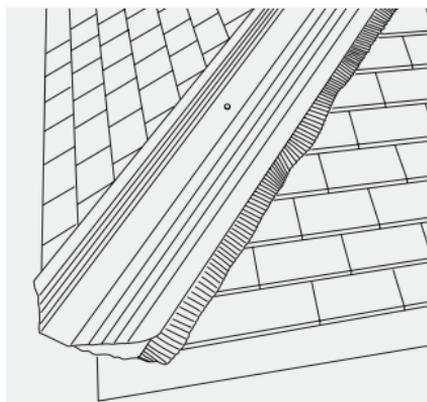

Fig. 60 – HipFast support tray cut at eaves
- 8 In all applications it is recommended that Hipfast support trays (34002) be used. These are designed to ensure the correct support and alignment of hip tiles. Cut a HipFast Hip Support Tray to suit angle and overhang of tiles at eaves (Fig. 60).